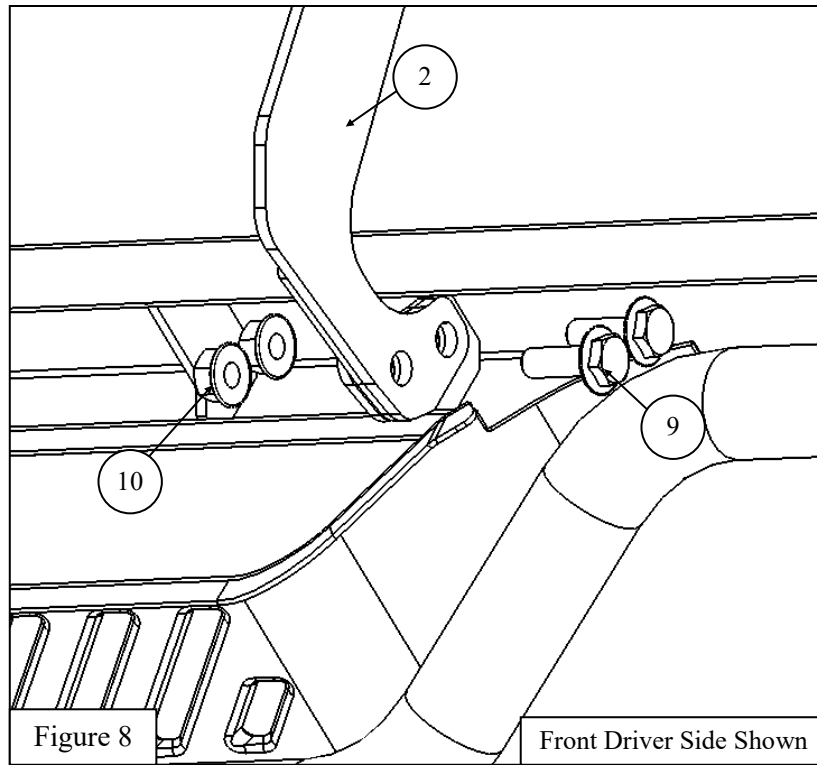

Figure 8
6. Use the supplied M10 Hardware (Items 9-10) to loosely secure the Outlaw Step Bars (Item 1) to the corresponding mounting brackets. See **Figure 8** for reference.